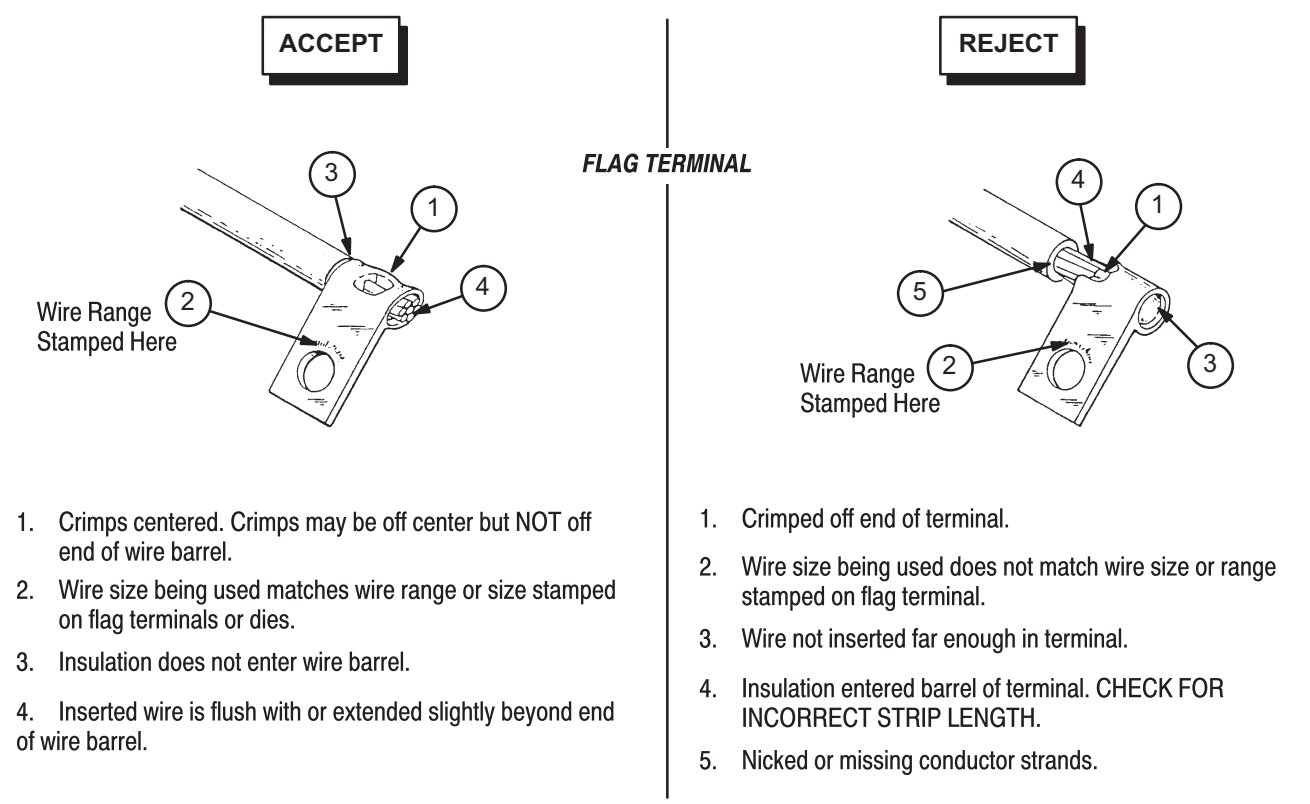

Figure 5
5.1. Crimp Inspection (Figure 5)
Inspect crimped terminals by checking the features described in Figure 5. Use only terminals that meet the conditions shown in the ACCEPT column. Terminals displaying the features shown in the REJECT column can be avoided by careful use of these instructions and by performing the maintenance and inspection procedures described in Paragraphs 5.2 and 5.3.